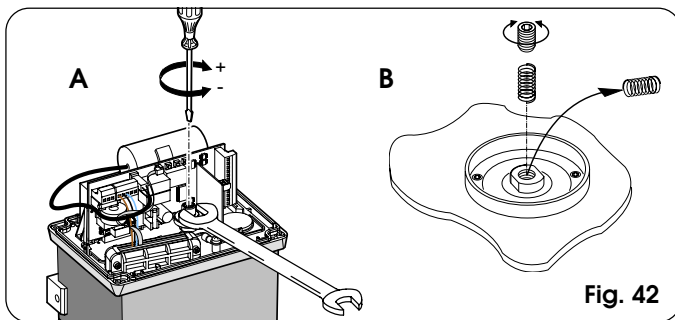

Fig. 42
- 2) Keep the motor shaft locked with a wrench and turn the clutch adjustment screw with an Allen wrench or screwdriver as shown in Fig. 42 Ref. A.
For spring replacement instructions, see Fig. 42 Ref. B.